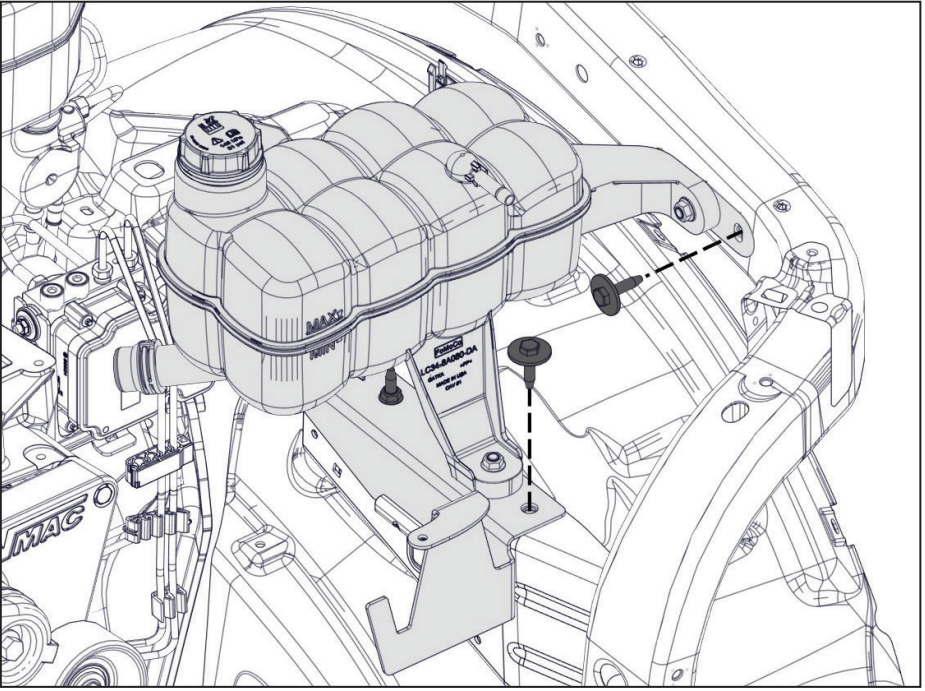
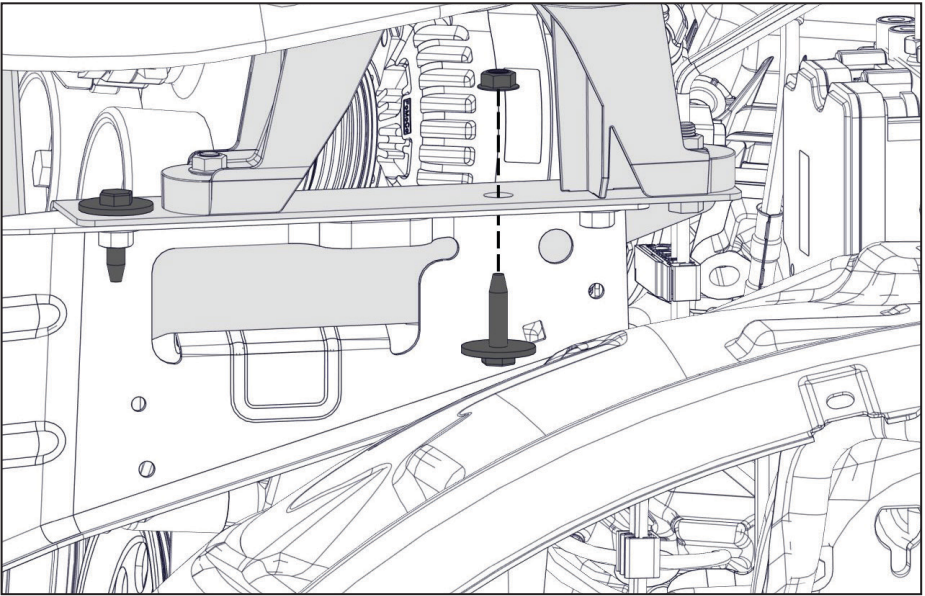

Figure 60 — Power steering / battery post relocation brackets
Figure 61 — Degas bottle relocation bracket
□ Using (x3) OEM battery box fasteners, and (x1) supplied flange nut, install the degas bottle assembly into the engine bay (Figure 60, Figure 61).